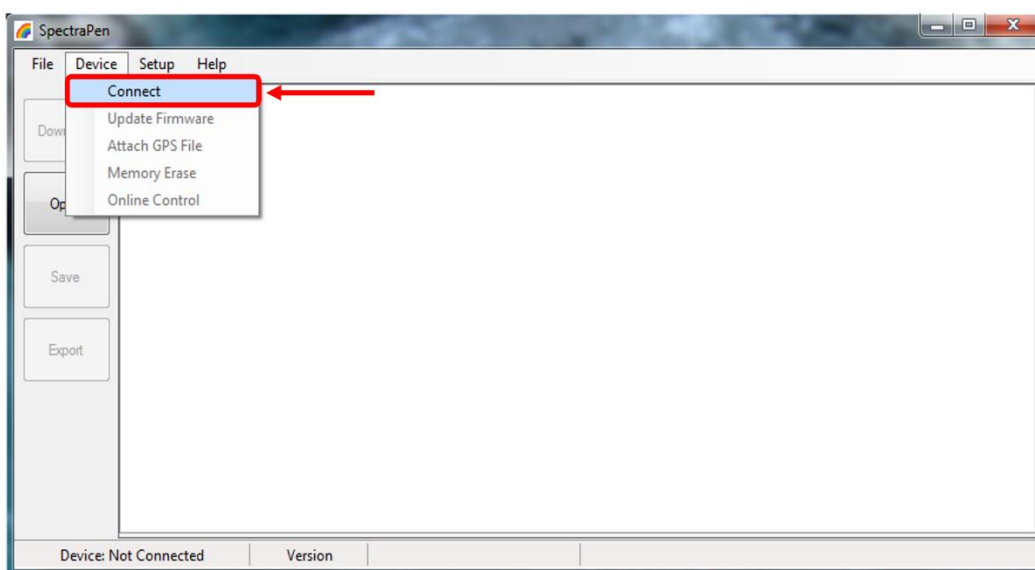

Fig. 20 SW connection.
5. Connect PolyPen device in SpectraPen software, **Device > Connect** (Fig. 20)